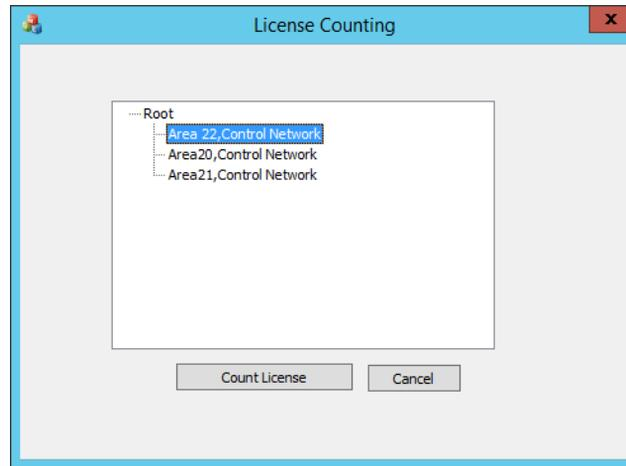

Figure 33. License Count Tool Wizard
License Count Tool is an User Interface tool that counts and verifies the list of licenses for the device types. The User Interface for this tool is available in the System 800xA 5.1 Feature Pack 4 Revision E and System 800xA Revision E release (see Figure 33).
2. On the License Counting wizard, expand the Root element, select the Control Network, and then click **Count License** as shown in Figure 33.